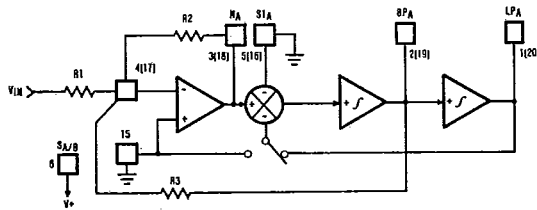

FIGURE 1.
**Electrical Specifications** (Complete Filter) ±4.5V < VS < ±5.5V, (Note 1) Refer to Figure 1.
**Electrical Specifications** (Internal Operational Amplifiers) ±4.5V < VS < ±5.5V, (Note 1) Refer to Figure 1